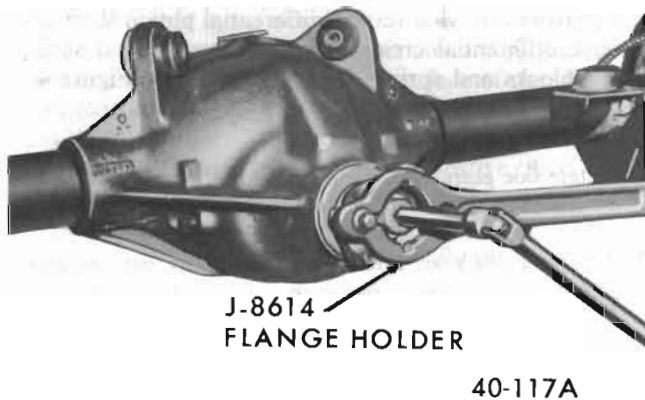

Figure 40-123 - Removing Pinion Nut
2. Install Holder J-8614 on flange by using two 5/16-18x2" bolts with flat washers. Remove pinion nut and washer. See Figure 40-123.